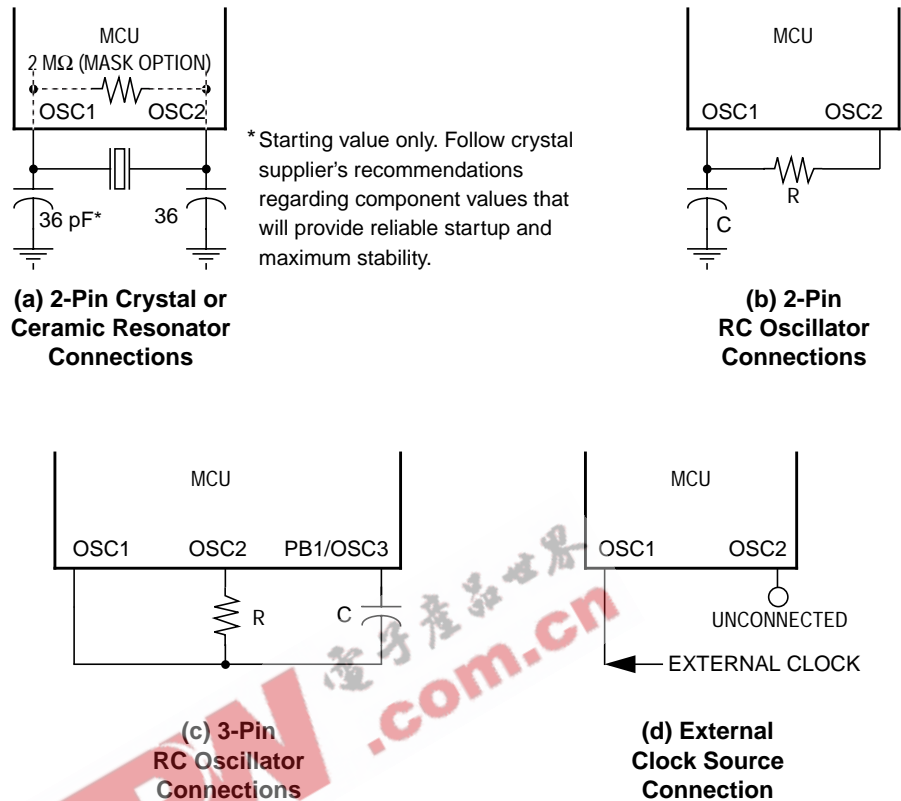

Figure 1-5. Oscillator Connections
1. A crystal, as shown in **Figure 1-5(a)**
2. A ceramic resonator, as shown in **Figure 1-5(a)**
3. An external resistor and capacitor using two pins, as shown in **Figure 1-5(b)**
4. An external resistor and capacitor using three pins, as shown in **Figure 1-5(c)**
5. An external clock signal, as shown in **Figure 1-5(d)**
The circuit in **Figure 1-5(a)** shows a typical 2-pin oscillator circuit for an AT-cut, parallel resonant crystal. The crystal manufacturer's recommendations should be followed, since the crystal parameters determine the external component values required to provide maximum stability and reliable startup. The load capacitance values used in the oscillator circuit design should include all stray capacitances. The crystal and components should be mounted as close as possible to the pins for startup stabilization and to minimize output distortion. An internal startup resistor of approximately 2 M Ω is provided between OSC1 and OSC2 when the crystal/ceramic resonator oscillator option is used.
In cost-sensitive applications, a ceramic resonator can be used instead of the crystal. The circuit in **Figure 1-5(a)** is designed for either a crystal or a ceramic resonator. The resonator manufacturer's recommendations should be followed, since the resonator parameters determine the external component values required for maximum stability and reliable starting. The load capacitance values used in the oscillator circuit design should include all stray capacitances. The ceramic resonator and components should be mounted as close as possible to the pins for startup stabilization and to minimize output distortion. An internal startup resistor of approximately 2 MΩ is provided between OSC1 and OSC2 for the crystal/ceramic resonator oscillator mask option.
The 2-pin RC oscillator configuration can be used for very low-cost applications. With this option, a resistor must be connected between the two oscillator pins and a capacitor must be connected from the OSC1 pin to V_{SS} , as shown in **Figure 1-5(b)**. The signal on the OSC2 pin is a square wave and the signal on the OSC1 pin approximates a triangular wave.
Another low cost, but more accurate, type of RC oscillator is the 3-pin configuration utilizing the PB1/OSC3 pin. With this option, a resistor must be connected between the OSC1 and OSC2 pins and a capacitor must be connected between the OSC1 and PB1/OSC3 pins, as shown in **Figure 1-5(c)**. This 3-pin RC oscillator is more accurate than the 2-pin RC oscillator with respect to temperature, supply voltage, and/or device processing variations. The signal on the OSC2 and PB1/OSC3 pins is a square wave and the signal on the OSC1 pin approximates a triangular wave.
An external clock from another CMOS-compatible device can be connected to the OSC1 input, with the OSC2 input not connected, as shown in Figure 1-5\(d\). This configuration is possible regardless of whether the oscillator is set up for crystal/ceramic resonator, 2-pin RC, or 3-pin RC operation. However, if the 3-pin RC oscillator is selected, the PB1/OSC3 pin also must be left unconnected.